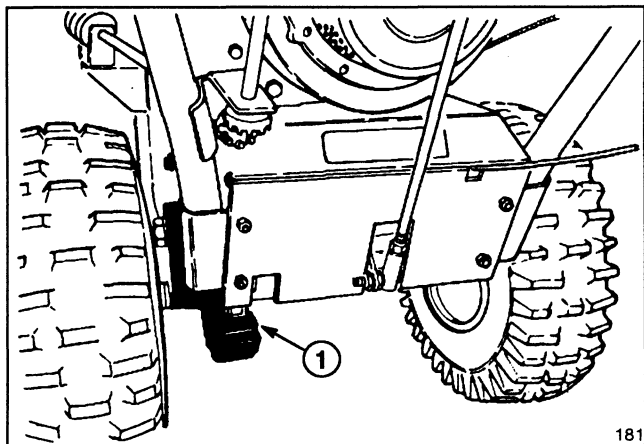

Figure 25
1. Annually lubricate drive chain with chain lubricant (Fig. 25). Wipe up any excess oil.